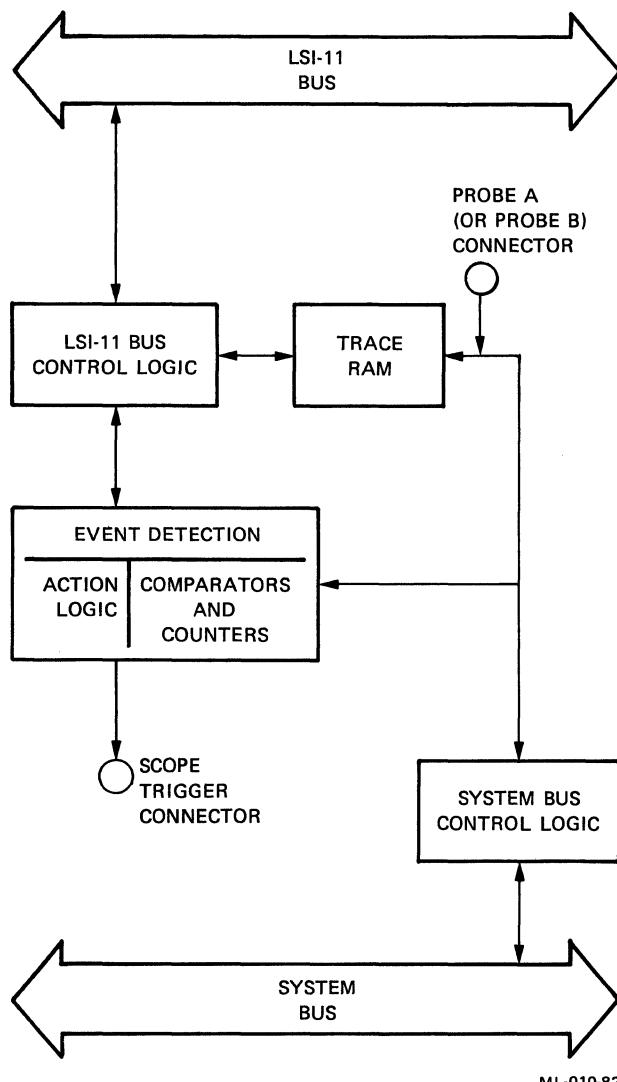

Figure 2-6 State Analyzer Functions
Figure 2-6 illustrates the major components of a state analyzer.
**2.2.3.2 Bus Cycle Tracing** - The trace RAM lets you trace each MICRO/T-11 bus cycle. The trace RAM is composed of high-speed static memory with 1024 locations and 56 bits in each location. Each location stores the same information described in the state template (Figure 2-6), with the exception of flag information. Also, the information stored matches actual bus cycles as they occur in real time. You can start or stop bus cycle tracing by specifying appropriate actions for user-defined events, configure the trace analyzer to trace always, or trace only a specified number of cycles (see the CONFIGURE ANALYZER command in Chapter 8).
3.2.1.3 State Template - The state template for each comparator (Figure 2-6) is 60 bits long and consists of the following fields: